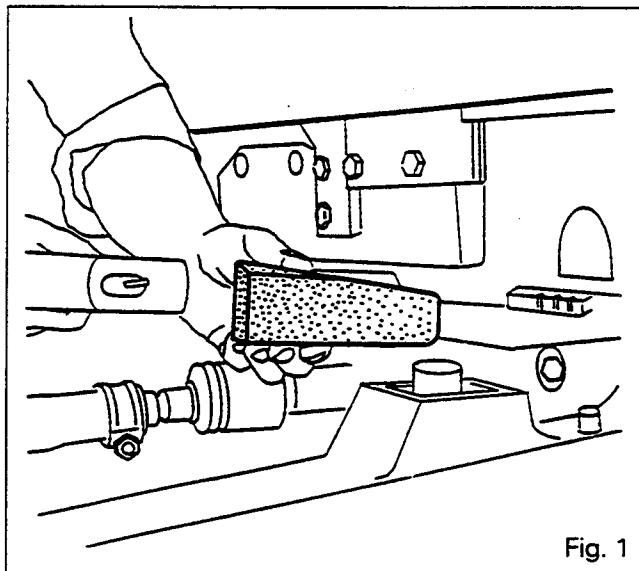

Fig. 1
- fit wedges between the frame and the front axle (Fig. 1).